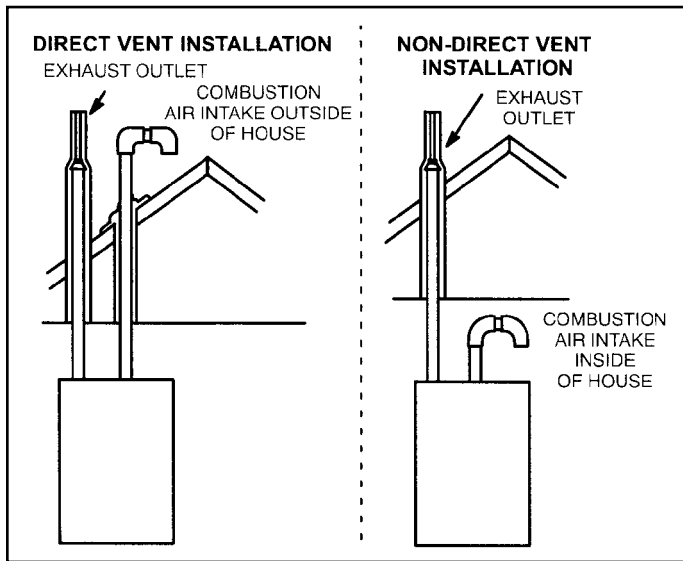
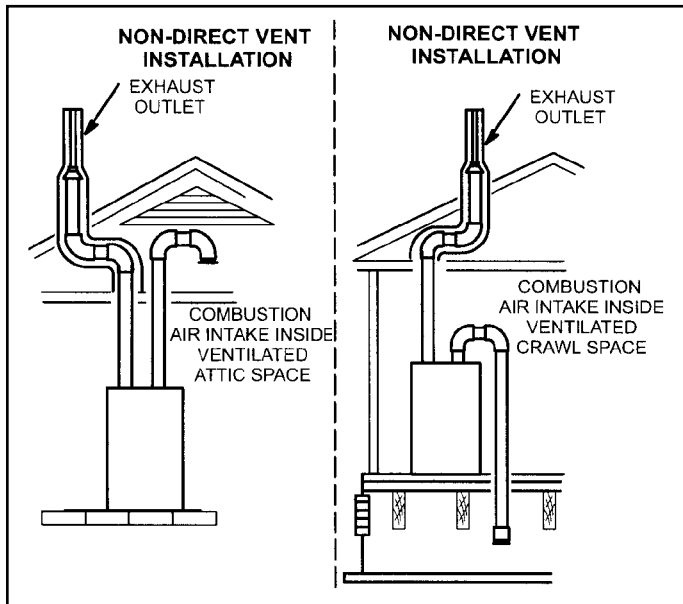

Figure 2.
Figure 3.
**NOTE:** In Direct Vent installations, combustion air is taken from outdoors and flue gases are discharged outdoors. In Non-Direct Vent installations, combustion air is taken from indoors or a ventilated attic or crawl space and flue gases are discharged outdoors. See Figure 2 and Figure 3 for applications involving roof termination.